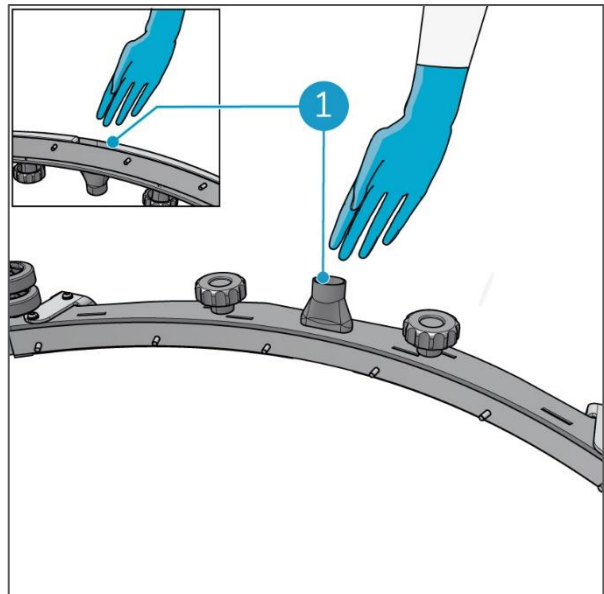

Figure 38
9. Carefully remove debris from the recovery water inlet (Figure 38, pos 1) by hand.